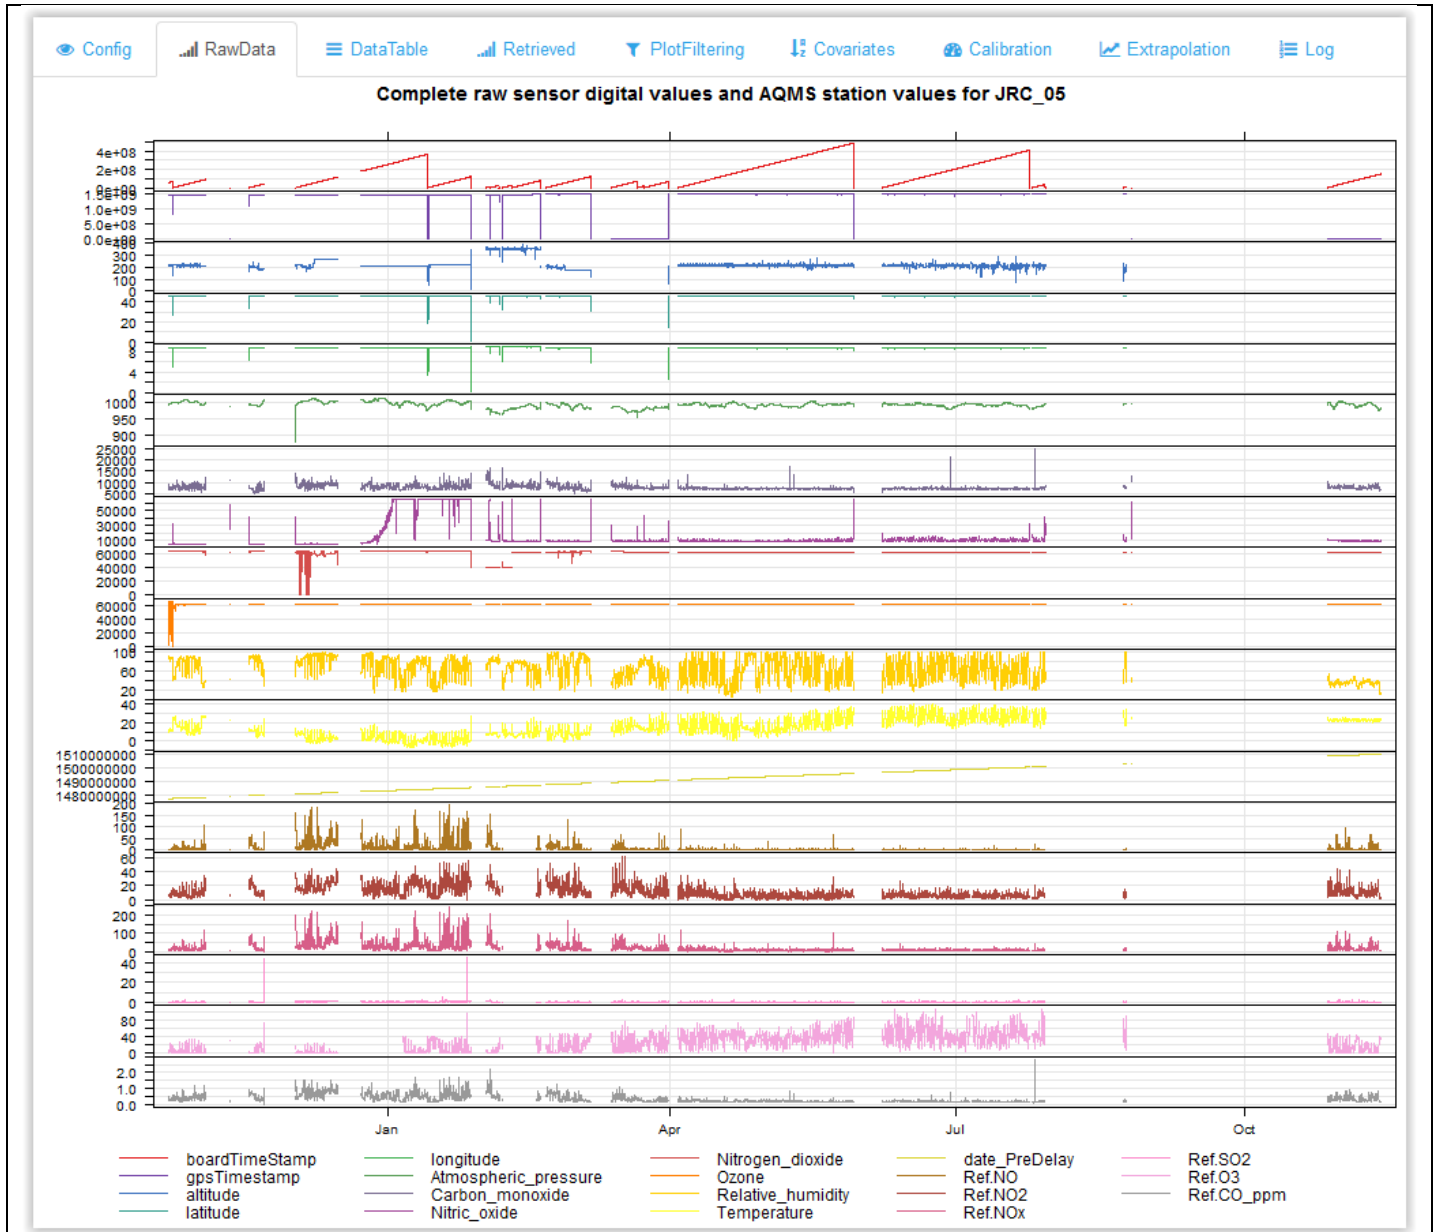

Figure 13: AirSensEUR R/Shiny web interface for AirSensEUR. Menu "Data Treatment". Plotting raw General data series
- Click on the mainPanel, TabPanel "Rawdata" to plot the whole "General" data frame, see Figure 13.
- Click on the mainPanel, TabPanel "Retrieved" to plot the whole "General" data frame, see Figure 13.